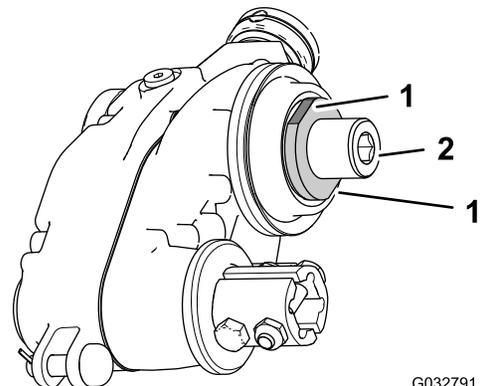

Figure 12
**Note:** When torquing the reel adapter and drive-box shaft, restrain the drive-box shaft with a wrench on the wrench flats at the inboard side of the groomer drive box (Figure 12).